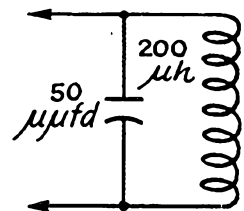

Fig. 4
5) What is the resonant frequency of the resonant current of Fig. 4?